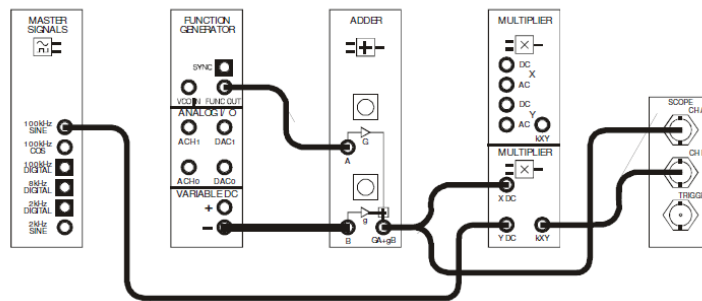

Figure 1
6. Connect the set-up shown in Figure 1 below.